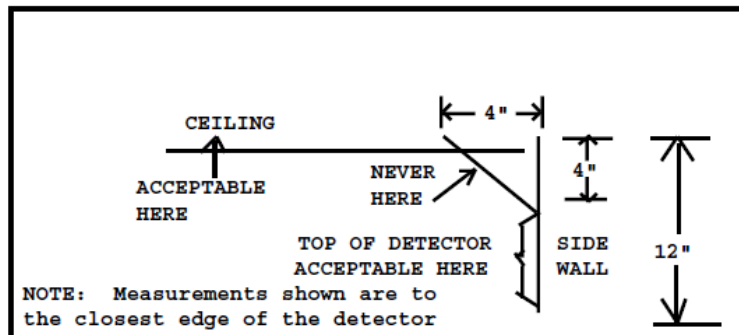

Figure 5
- The 4-inch "Dead Air" space where the ceiling meets the wall, as shown in Figure 5.